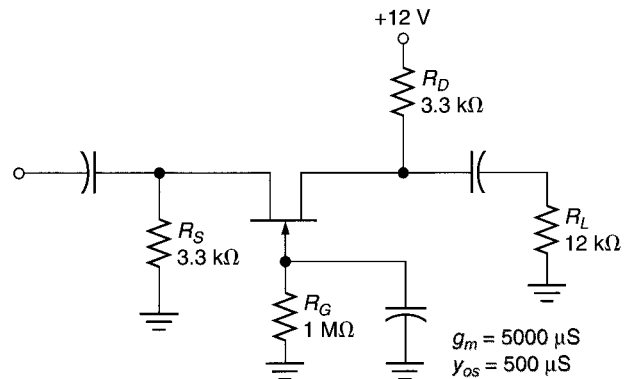

FIGURE 12.71
44. Determine the ranges of  $A_v$ ,  $Z_{in}$ , and  $Z_{out}$  for the circuit shown in Figure 12.71.